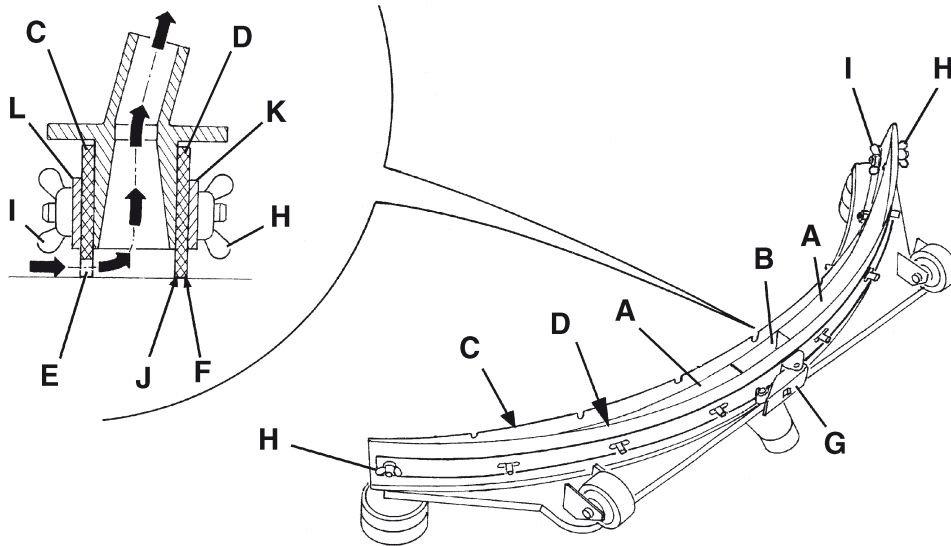
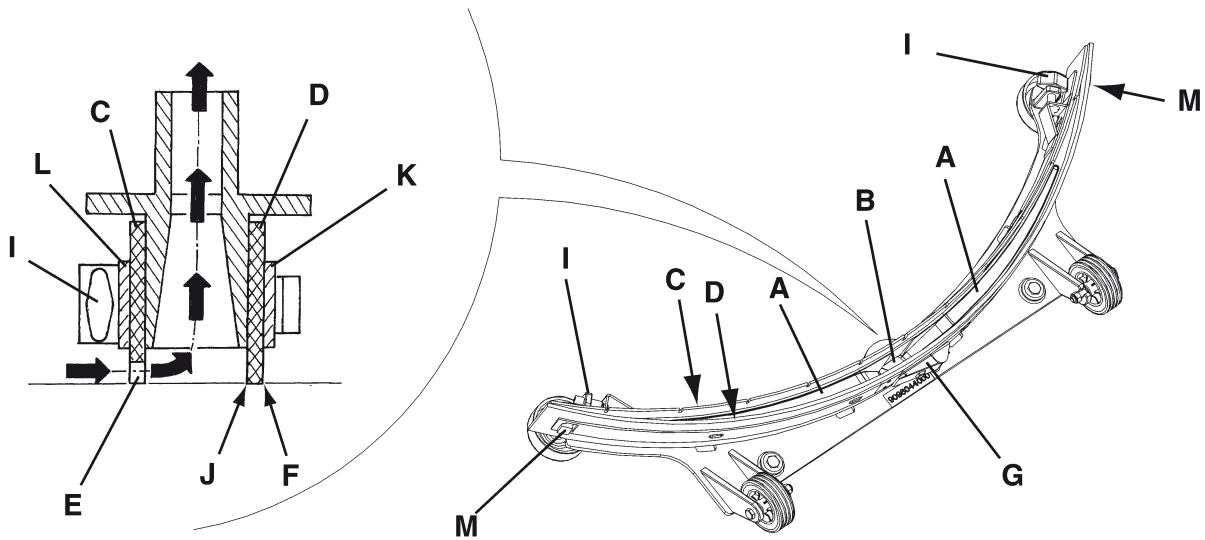

Fig. 1
Fig. 2
2. - (For **BA 451D**, **BA 531D**, **BA 551D**, **BA 551CD**, **BA 611D**) Turn the ignition key (80) to "0".
- (For **BA 451**, **BA 531**, **BA 551**) Turn off the switches (71) and (73).
- (For **CA 451**, **CA 531**, **CA 551**) Disconnect the power supply cable (59) from the electrical mains.
3. Lower the squeegee (25) with the lever (10).
4. Loosen the handwheels (26) and remove the squeegee (25).
5. Disconnect the vacuum hose (15) from the squeegee.
6. Clean the steel squeegee (Fig. 1) or the aluminium squeegee (Fig. 2). Clean the compartments (A, Fig. 1 or 2) and the hole (B) especially. Check the front blade (C) and the rear blade (D) for integrity, cuts and tears; otherwise replace them (see the procedure in the following paragraph).
8. Clean the steel squeegee (Fig. 1) or the aluminium squeegee (Fig. 2), according to the procedure shown in the previous paragraph.
9. Check that the edges (E, Fig. 1 or 2) of the front blade (C) and the edges (F) of the rear blade (D) lay down on the same level, along their length; otherwise adjust their height according to the following procedure:
- Release the tie rod (G, Fig. 1 or 2) and loosen the wing nuts (H, Fig. 1), or disengage the fasteners (M, Fig. 2) and adjust the rear blade (D, Fig. 1 or 2), then tighten the wing nuts, or engage the fasteners, and then engage the tie rod.
- Loosen the handwheels (I) and adjust the front blade (C, Fig. 1 or 2); then tighten the handwheels.
10. Check the front blade (C, Fig. 1 or 2) and rear blade (D) for integrity, cuts and tears; if necessary replace them according to the following procedure. Check that the front corner (J) of the rear blade is not worn; otherwise, overturn the blade to replace the worn corner with an integral one. If the other corners are worn too, replace the blade according to the following procedure:
- Release the tie rod (G), remove the wing nuts (H) or disengage the fasteners (M), remove the retaining strip (K), then replace/overturn the rear blade (D). Then install the blade in the reverse order of removal.
- Unscrew the handwheels (I) and remove the retaining strip (L), then replace the front blade (C). Install the blade in the reverse order of removal.
11. Connect the vacuum hose (15) to the squeegee.
12. Install the squeegee (25) and screw down the handwheels (26).
13. If necessary, adjust the squeegee balance adjusting handwheel (27).